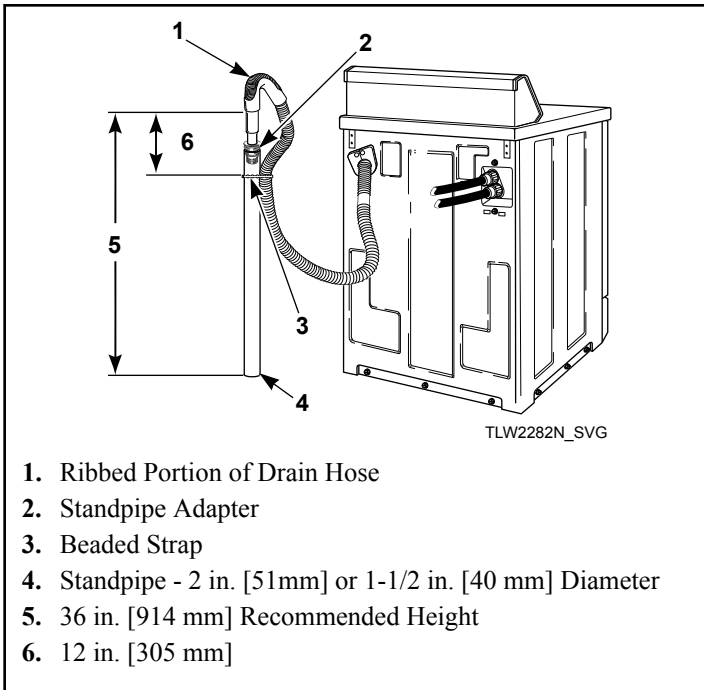

Figure 5
- Remove the beaded strap from accessories bag and place around standpipe and drain hose, approximately 12 inches [300 mm] down from the top of pipe. Refer to *Figure 5*.